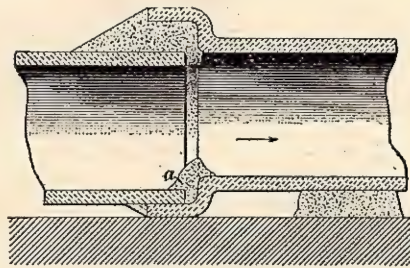

FIG. 30
44. Fig. 30 shows a very common defective joint, where cement projects on the inside, as at *a*. This defect generally occurs when a whole line of pipes is first laid in a trench and then jointed. The proper method is to cement and finish each length of pipe as soon as laid. If joints